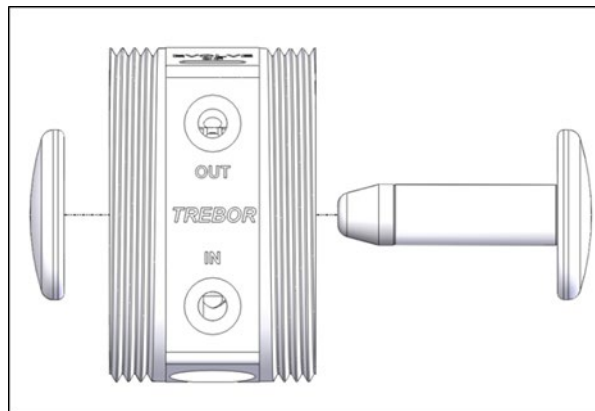

Figure 4-5: Shaft Insert Diagram with Tool
- Thread shaft onto shaft insert tool and insert shaft into bore. See Figure 4-5. This prevents damage to the TFE shaft seals and prevents dislodgement of shaft seals.